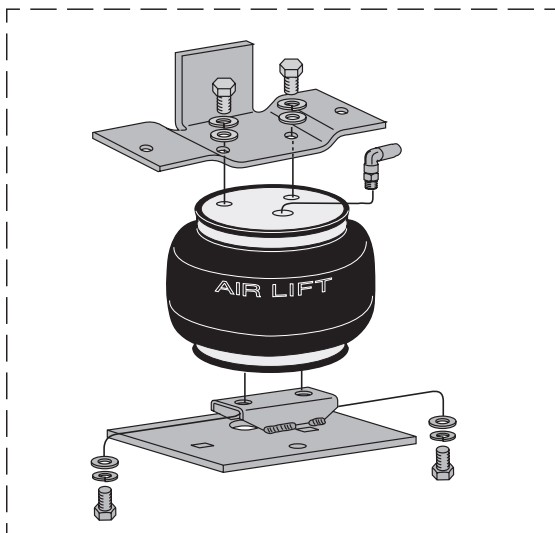

fig. 1
- Set a roll plate (E) on both ends of the double convolute bellow (Figure 1). **Kit 88128 with the single convolute bellow does not require roll plates.**
- Attach the lower bracket to the bellow using two bolts (H), two lock washers (I), and two flat washers (J) (Figure 1).
- Attach the upper bracket (B) to the bellow using two bolts (H), two lock washers (I), and two flat washers (J). Be sure that the tall vertical leg of the upper bracket is opposite of the air fitting port (Figure 1).